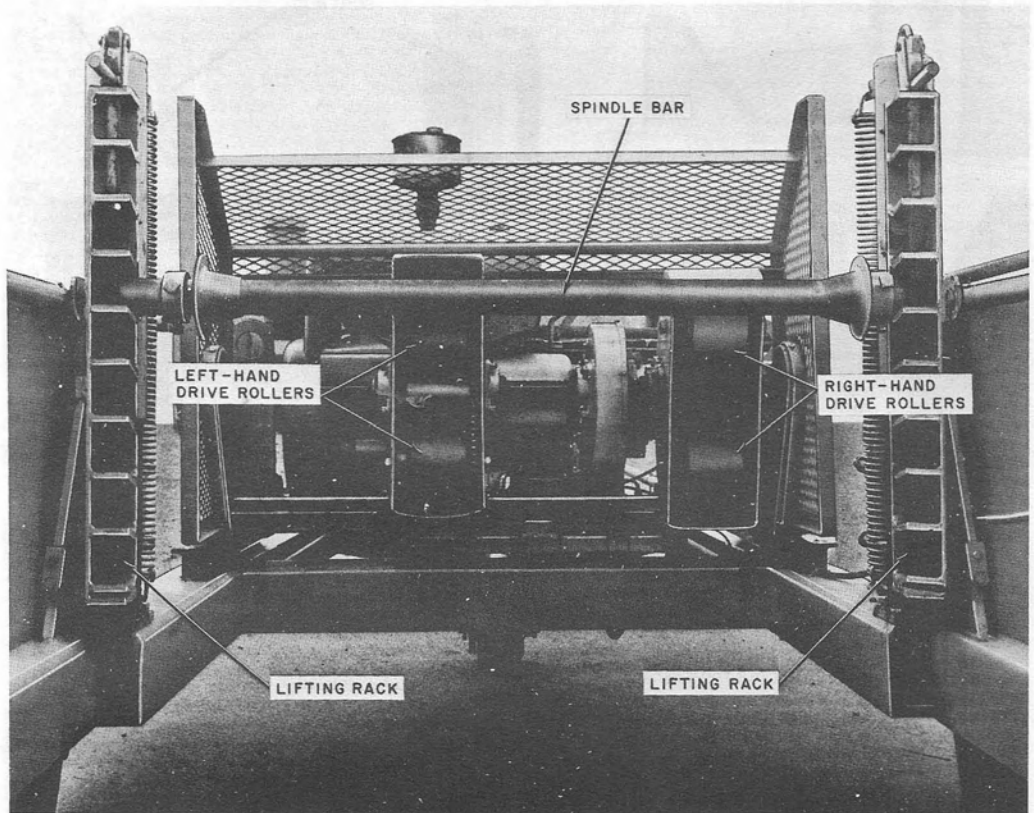

Fig. 4—Power Winding Unit—Rear View
2.06 The four drive rollers, located at the rear of the power winding unit, as shown in Fig. 4, are of solid rubber and drive the cable reel through contact with cable reel rim flanges.